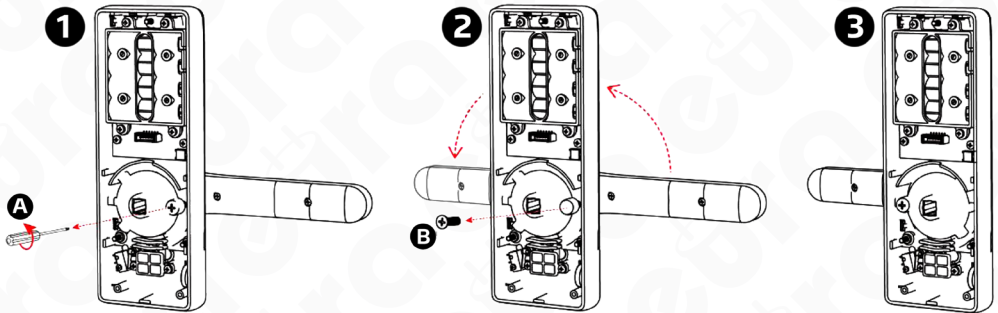

Fig. 7
- Unscrew the locking screw next to the spindle socket (fig. 7, position 1-A).
- Set the handle in the desired direction (fig. 7, position 2).
- Once the direction is set, screw in the direction-setting screw (fig. 7, position 3).